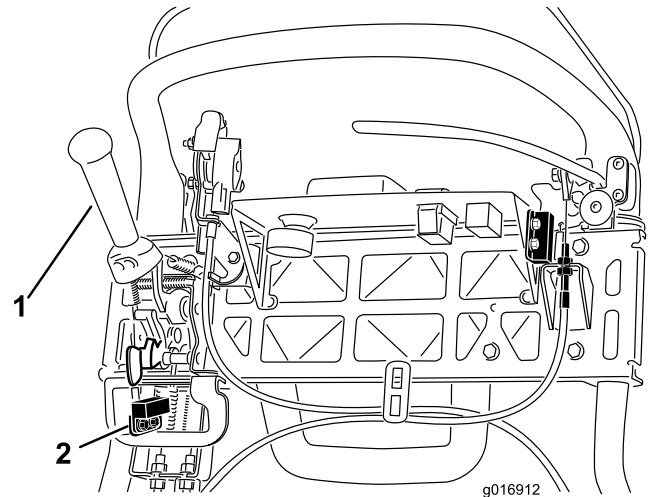

Figure 39
4. Loosen the interlock switch mounting fasteners (Figure 39).
5. Place a 1.6 mm (0.062 inch) thick shim between the traction lever and the interlock switch (Figure 39).